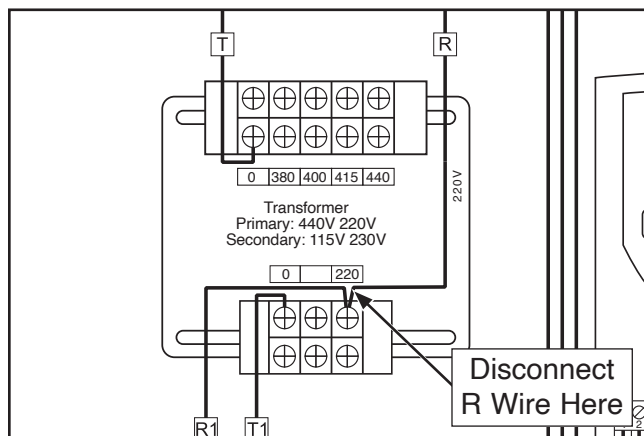

Figure 12. R wire connected to 220V transformer terminal.
11. Disconnect R wire from 220V terminal on transformer (see **Figure 12**).